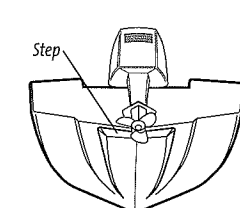

Figure 11
- On boats with stepped hulls, it may be possible to mount the transducer on the step. Do not mount the transducer on the transom behind a step to avoid popping the transducer out of the water at higher speeds; the transducer must remain in the water for the control head to maintain the sonar signal (Figure 11).